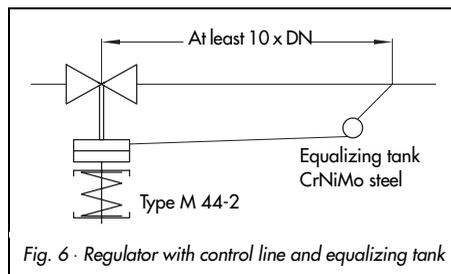

Fig. 6 · Regulator with control line and equalizing tank
- Spacing between pressure sensing point and pressure reducing valve **at least 10 x DN** (see Fig. 6).